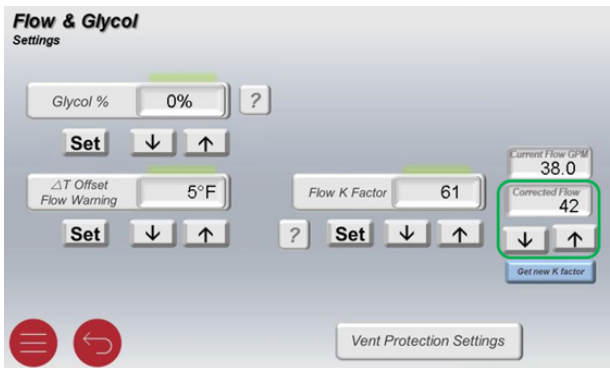

Figure 66. Corrected Flow Box Settings
6. Compare the reference flow meter with unit's flow meter and if there's a discrepancy of more than 15 GPM, set reference flow meter readings in "Corrected Flow Box" using the arrows below it. See **Figure 66**.